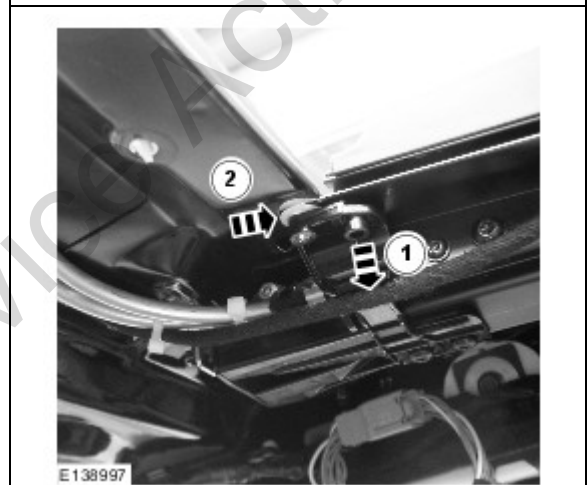

Figure 7
9. Install the lower washer. (Figure 7)